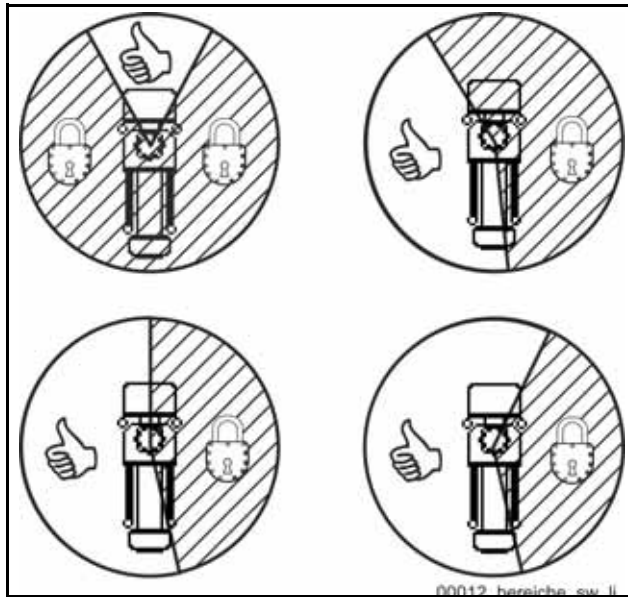

Fig. 468 Secure areas (not dashed)
- If necessary, first move the placing boom back to the secure (supported) area (example: (**Fig. 468**)) using the emergency operation control levers.